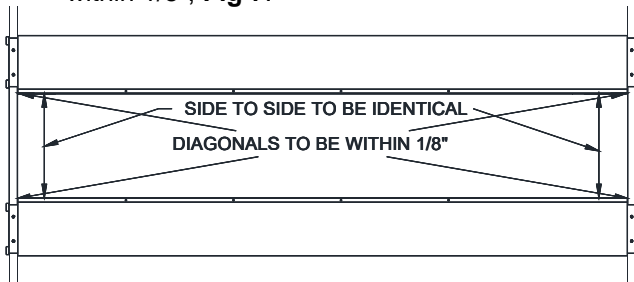

Fig 7 – Final Runway Positioning
- 14) Check the layout of the lift in the bay. (**This is the last opportunity to reposition the lift.**) Adjust the position of the runways so the distance from power side jack rail to idler side jack rail is the same at the front and the rear and the diagonal measurements from the front tip of one rail to rear tip of the opposite rail are within 1/8", **Fig 7**.